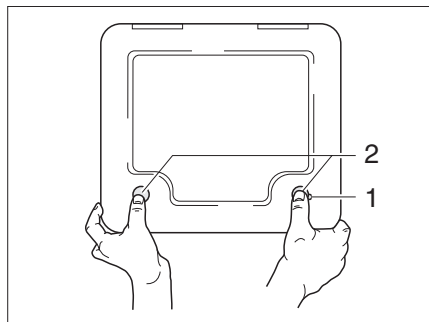

Fig. 132 Flap for the toilet cassette
- Open the flap for the cassette on the outside of the vehicle. Insert the key into the locking cylinder of the push-button lock (Fig. 132,1) and turn a quarter turn.
- Press both push-button locks (Fig. 132,2) simultaneously with your thumb and open the flap for the cassette.